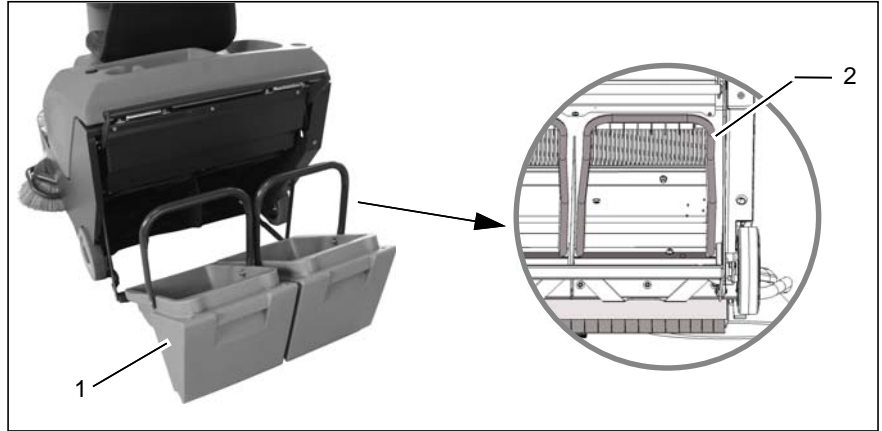

Fig. 23
2. Remove the dirt hoppers (Fig. 23/1) from the vehicle.
3. Pull the seals (Fig. 23/2) from the edges.